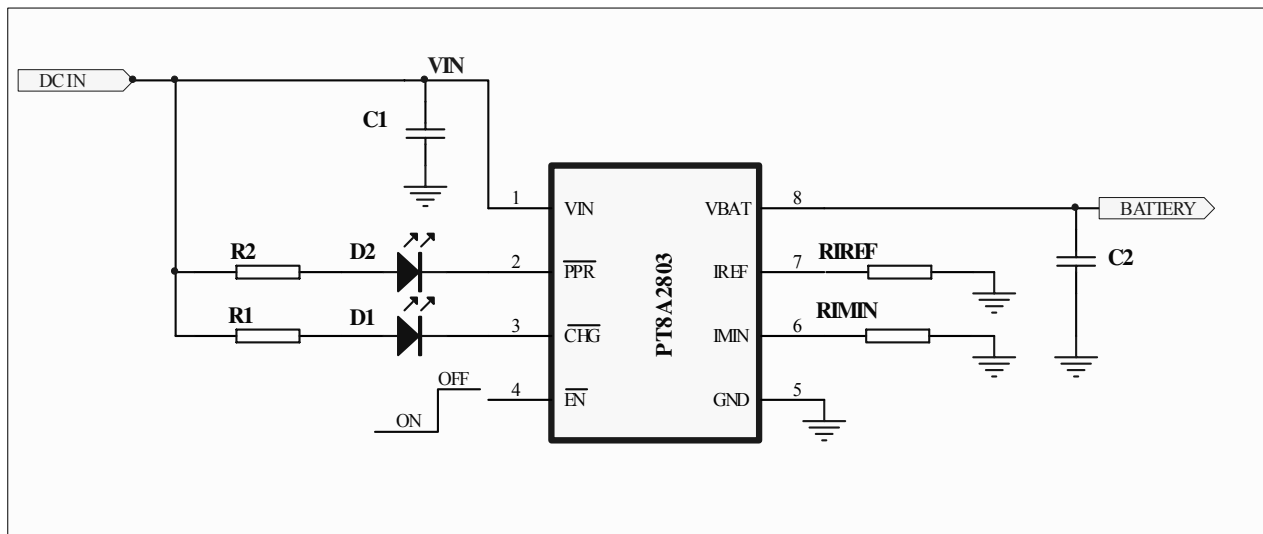
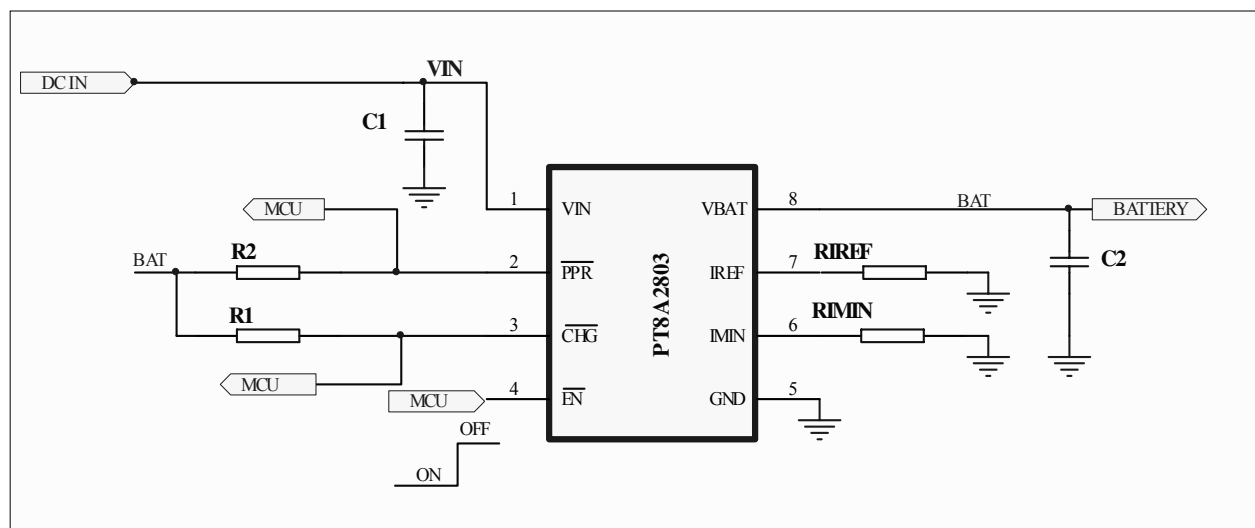
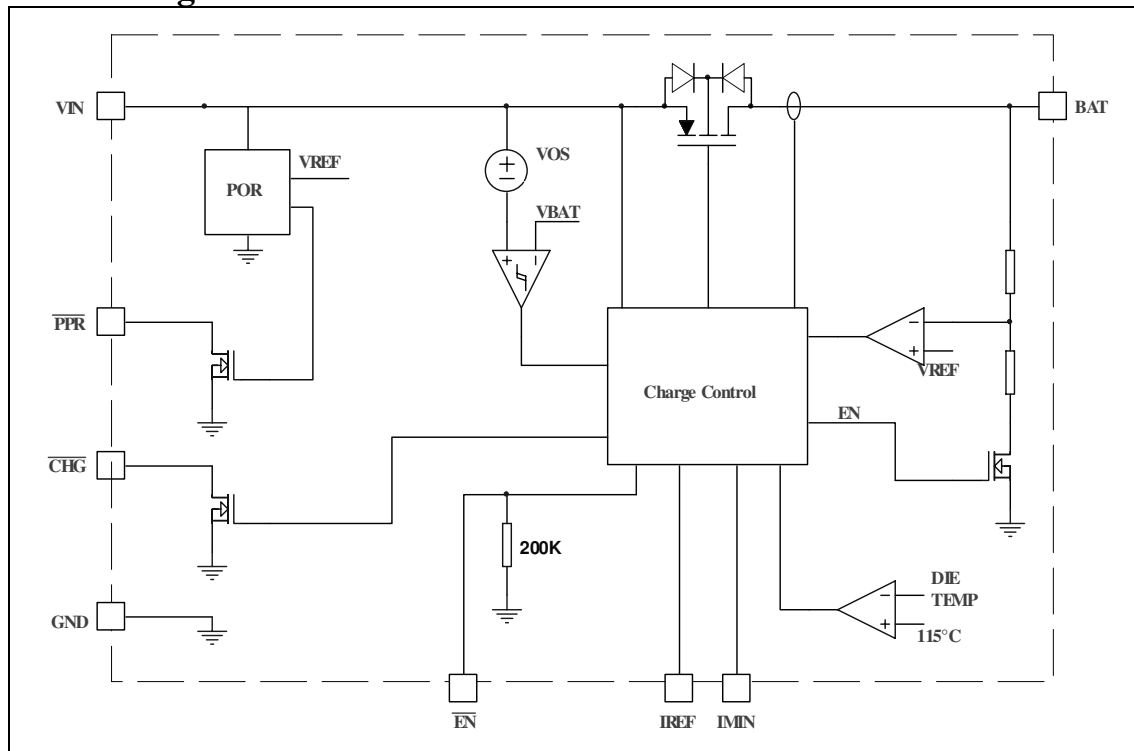
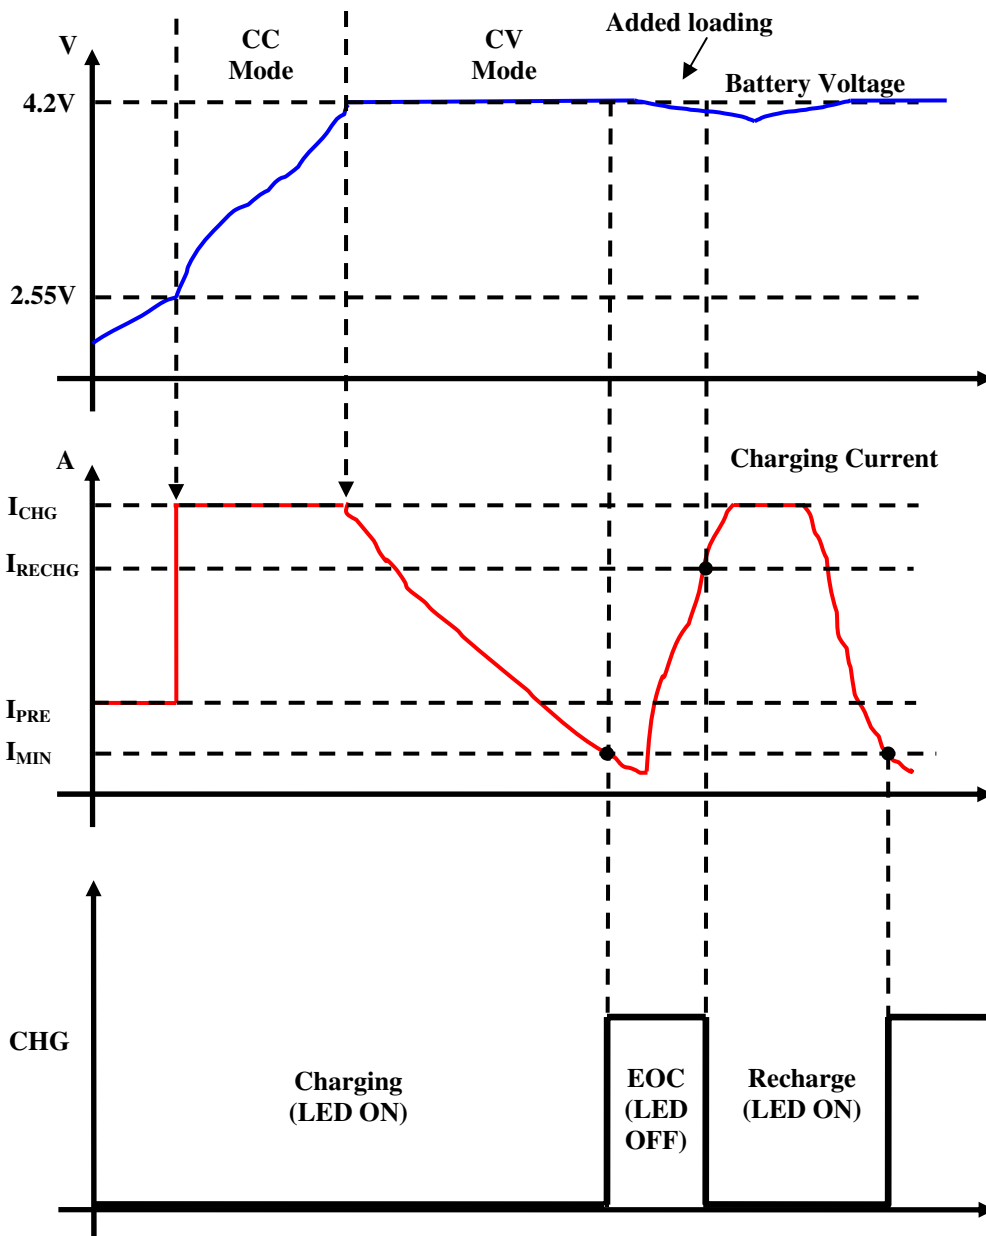

Figure 1 PT8A2803 Typical Application Circuit to Indication LEDs
Figure 2 PT8A2803 Typical Application Circuit Interfacing to a MCU
Figure 3 Block diagram of PT8A2803
Figure 4 PT8A2803 Typical Charge Profile
Component Description for Figure 1
Component Description for Figure 2
The PT8A2803 charges a single-cell Li-ion/Polymer battery with a programmable constant current (CC) or a constant voltage (CV) algorithm. The fast charge current (ICHG) can be programmed by setting an external resistor RIREF (see **Figure 1/2**) while constant voltage is factory-trimmed at 4.2V (4.1V or 4.36V) options area available upon request). If the battery voltage was deeply discharged to lower than 2.55V, PT8A2803 firstly pre-charges the battery with 20% of the programmed fast charge current. Normally, the battery voltage rises gradually during CC charge phase. When the battery voltage reaches almost 4.2V, the charger enters the constant-voltage (CV) charging mode and begins to regulate the battery voltage at 4.2V while diminishing the charging current gradually. When charging current is reduced to an amount smaller than the programmed End-Of-Charge (EOC) current level, the charger gives out a “full-charge” indication through the CHG pin, but the charger still continues to regulate the battery voltage at 4.2V with safe & small current. **Figure 4** shows the typical charge profile with the EOC/reset event.
PT8A2803 employs current recharge algorithm. The end-of charge (EOC) current level can be easily programmed with an external resistor RIMIN (see **Figure 3/4**). The $\overline{\text{CHG}}$ signal turns to LOW when pre-charge starts and rises to HIGH when EOC is reached. After reaching EOC, the charge current has to rise to typically 76% ICHG before the $\overline{\text{CHG}}$ signal will turn on again, as shown in **Figure 4**. The current surge after EOC can be caused by a load connected to the battery.
The $\overline{\text{PPR}}$ pin is implemented as an open-drain output to provide a power-good indication of the input power source such as an AC adapter. When the input voltage is higher than the POR (Power-On Reset) threshold, the $\overline{\text{PPR}}$ pin turns on the internal open-drain MOSFET to indicate a logic LOW signal. The $\overline{\text{PPR}}$ indication is designed to be independent on the chip enable ($\overline{\text{EN}}$ -pin) input. When the internal open-drain FET is turned off, the $\overline{\text{PPR}}$ pin should leak less than 1 μ A current. When turned on, the $\overline{\text{PPR}}$ pin should be able to sink at least 10mA current under all operating conditions. The $\overline{\text{PPR}}$ pin can be used to drive an LED (see **Figure 1**) or worked as logic interface to a microprocessor (see **Figure 2**).